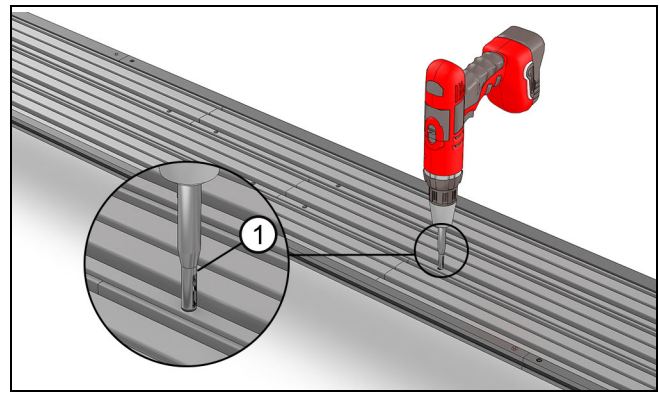

Figure 23
8. Drill pilot holes through the pre-drilled holes (found near the splice areas) using a 1/8" (3) Vix (self centering) drill bit. **The depth cannot exceed 1/2" deep.** See Figure 23.